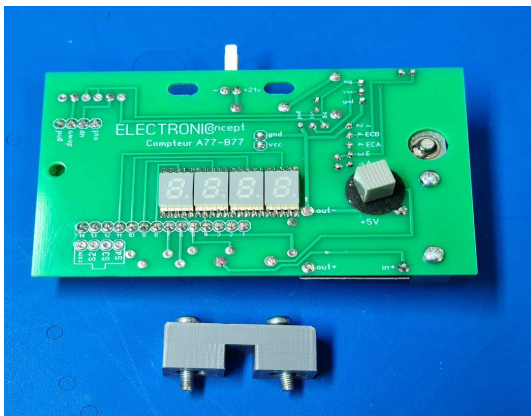
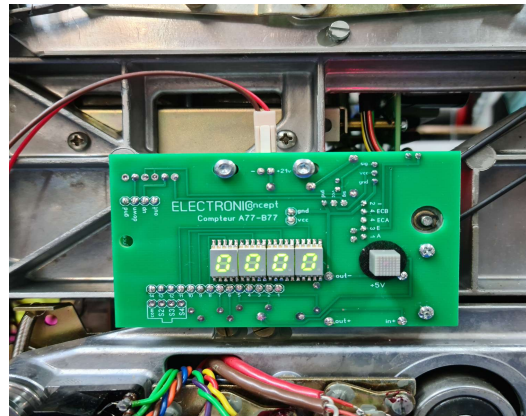

Figure 3
Figure 4
- Connect the cable to the meter socket (Figure 3). Install the digital counter, with the screws and the cardboard washers (washers between the screw head and the circuit). Replace the belt on the pulley. (Figure 4).